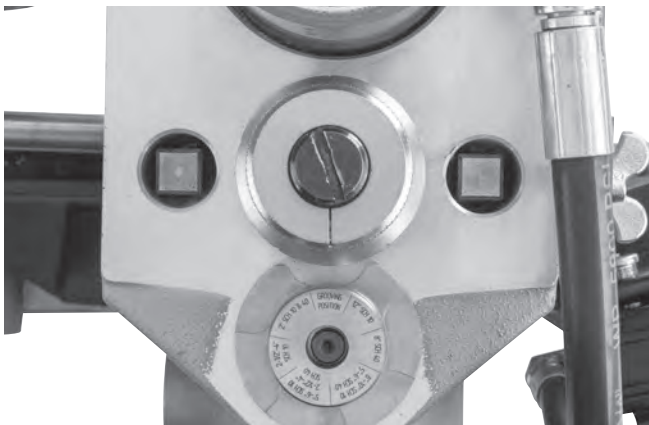

Figure 14B – Gauge in Grooving Position
4. Turn the adjusting nut clockwise until the head touches the step of the depth gauge. Turn the groove depth gauge to the grooving position (Figure 14B). If the gauge is not in the grooving position it will prevent grooving and may be damaged.
2. Make sure the groove depth gauge is in the grooving position. (*Figure 14B*)